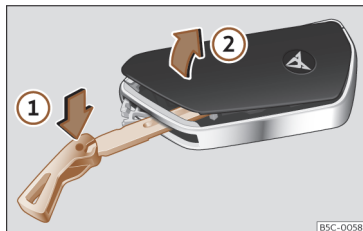

Fig. 83 Vehicle key: open the battery compartment cover.
- Insert the key blade into the slot >>> Fig. 83, press it in the direction of arrow ① and detach the cover by levering it ②.